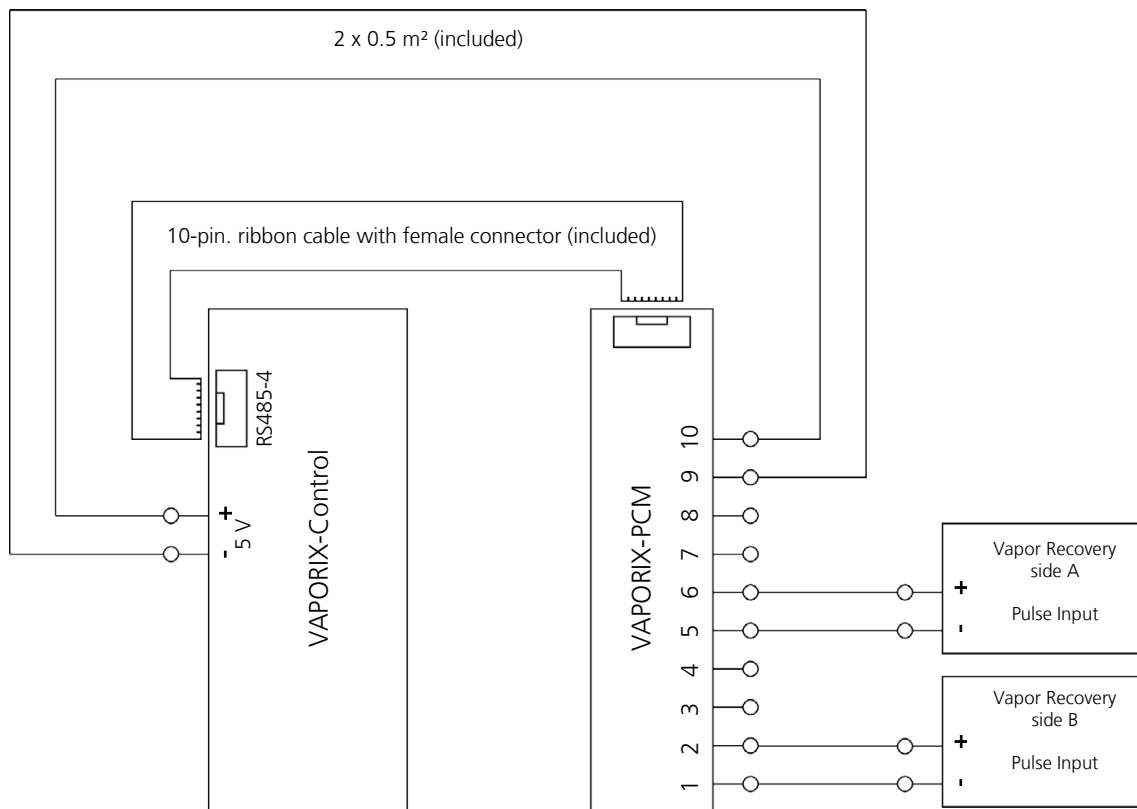

Figure 3: Wiring
- VAPORIX-PCM has to be wired to VAPORIX-Control and the vapor recovery system in accordance to Figure 3. The screws of the connection terminals of the VAPORIX-PCM are protected against falling out. For connecting use a screwdriver with suitable width of maximum 2.3 mm, as the mechanical protection can be damaged or destroyed by too large screwdrivers.
- Alternatively to the TTL outputs shown in Figure 3, also galvanically isolated pulses of higher voltage can be generated via the optocoupler outputs (external resistor and voltage source is required). To avoid damaging the VAPORIX-PCM, the maximum switching voltage of 28 V and the maximum switching current of 10 mA must not be exceeded. For this option a consultation must be hold with the manufacturer of the vapor recovery system or of the dispenser.